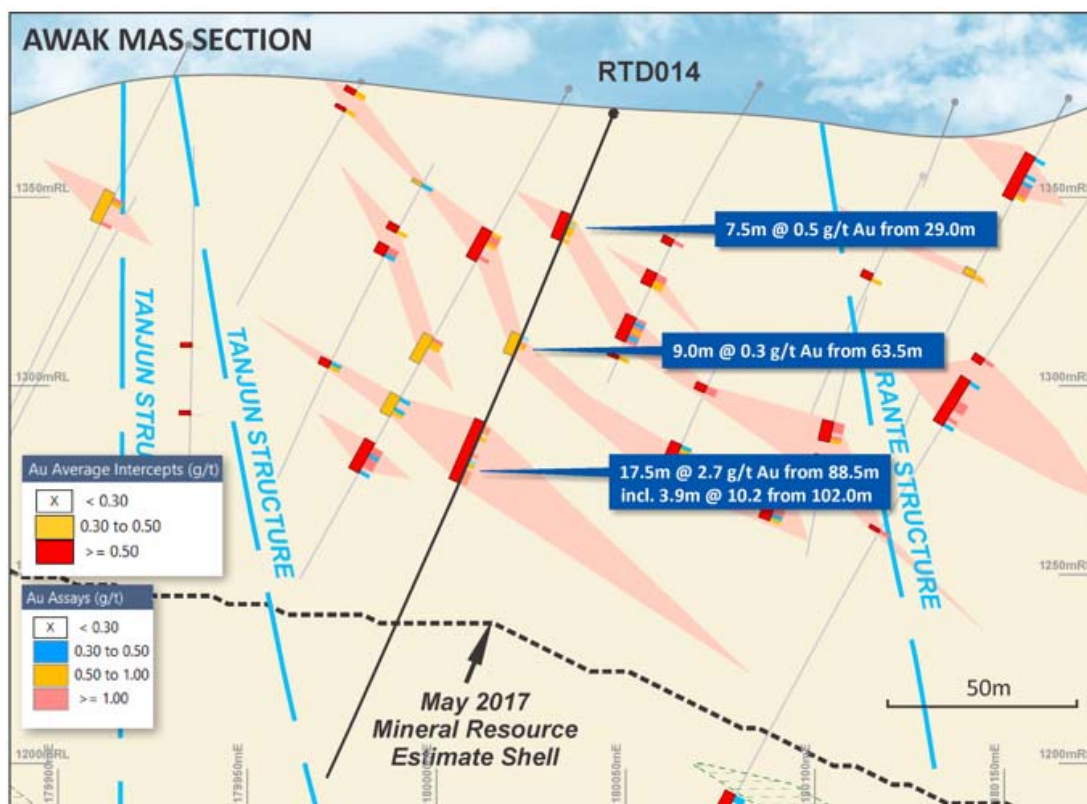

Figure 3: Cross-section of Awak Mas deposit showing mineralised intersections > 0.3 g/t Au in RTD014.
- RTD014 (Figure 3); 17.5 m at 2.7 g/t Au from 88.5 m including a high-grade interval of 3.9 m at 10.2 g/t Au from 102.1 m.